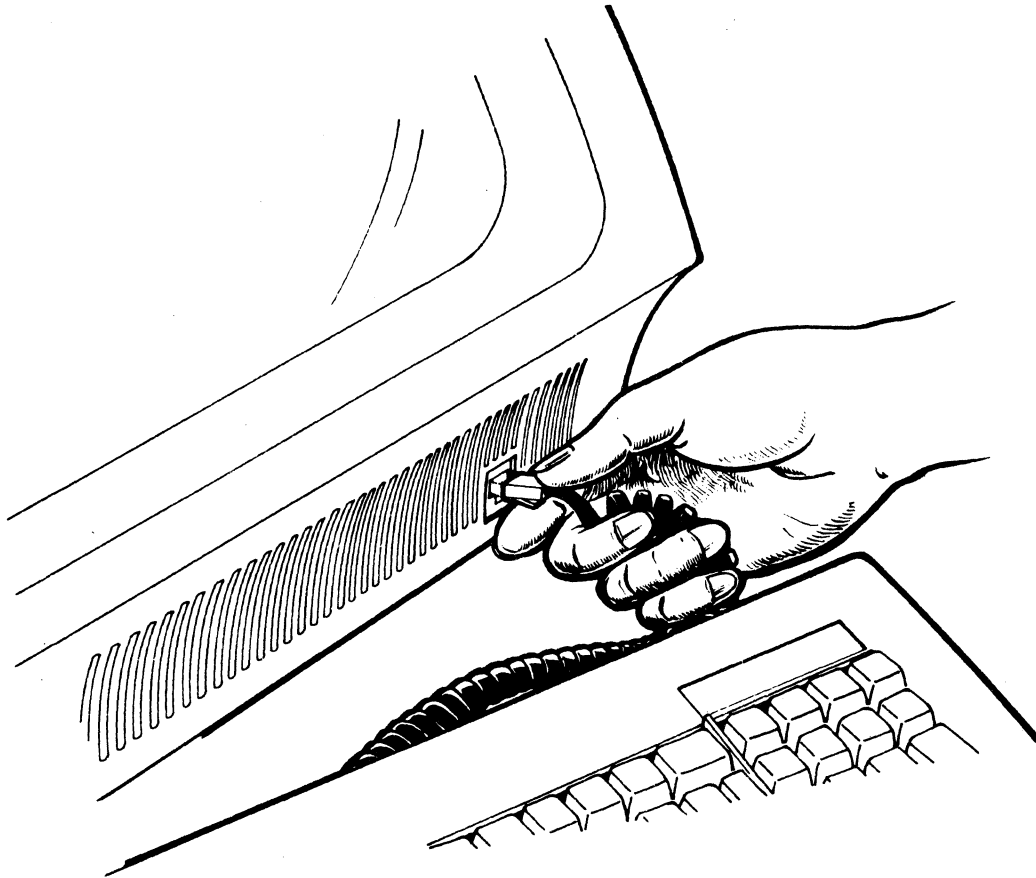

Figure 2-4. Keyboard Cable Connection
2. Place the keyboard in front of the display monitor and plug the coiled keyboard cable into the keyboard receptacle located on the lower right front receptacle of the terminal (Figure 2-4).